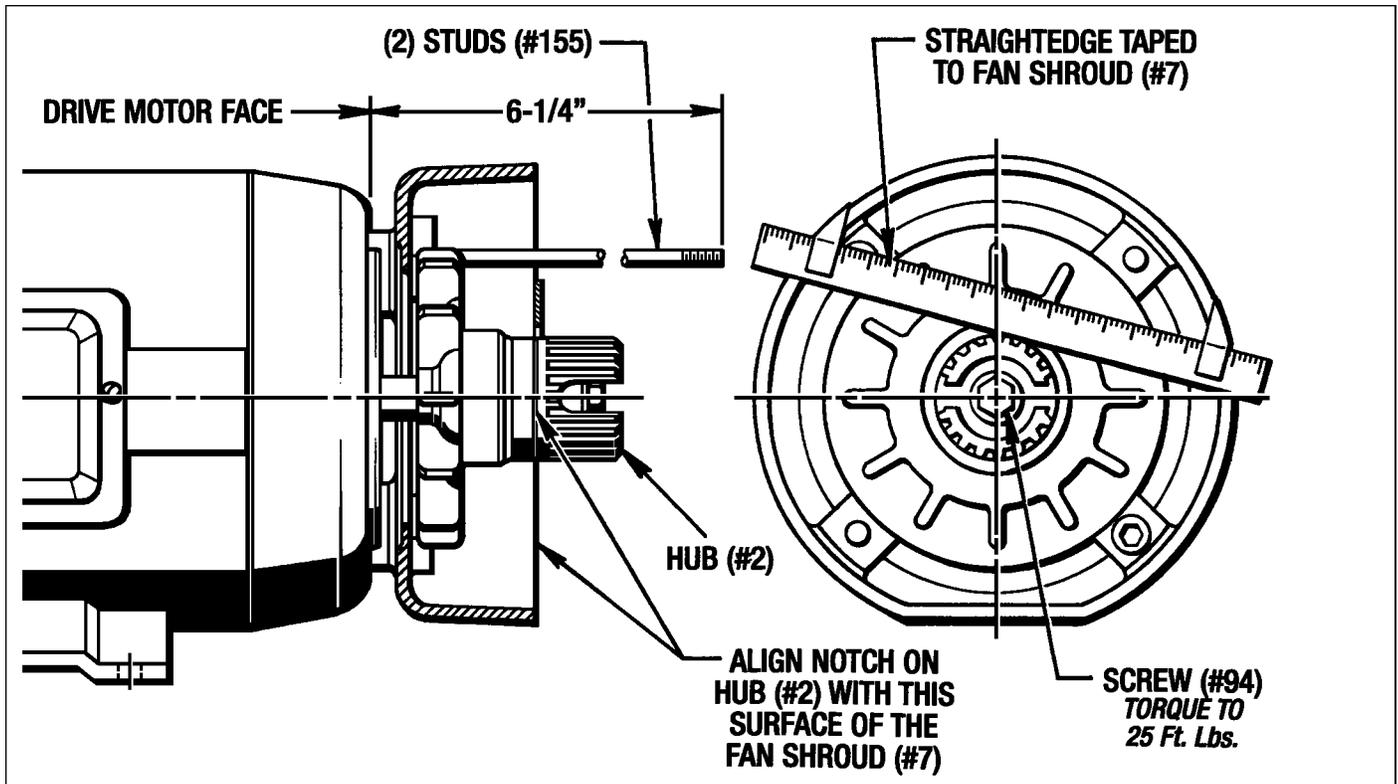

Figure 3.2 - Hub Alignment
If your *MagnaShear* Motor Brake is shipped pre-assembled to a drive motor, it is filled with oil and ready to run except for installing the Air Breather (#45) and electrical wiring. (See Figure 3.2 and 3.3 for Electrical Wiring Diagram.)
(See *Figures 3.2 and 8.1*)
1. Apply a little **Blue Loctite #242** to the (2) Studs (#155) and screw them into the drive motor leaving 6-1/4" exposed from the motor face. The (2) holes are indicated with a grey tone in *Figure 3.2* above. Let the Loctite set for approx. 5 minutes before proceeding any further.
2. Slide the Fan Shroud (#7) over the (2) extended Studs (#155) and attach to the motor face with (2) Lockwashers (#127) and (2) Screws (#149). **Torque to 25 Ft. Lbs.**
5. Tape a steel straightedge to the face of the Fan Shroud (#7) as shown in *Figure 3.2* above.
with the back edge of the straightedge as shown in *Figure 3.2*. This alignment should be $\pm 1/64$ ".